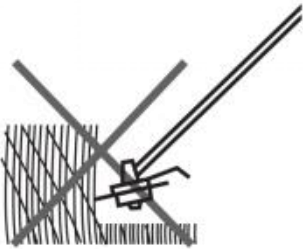

Fig. 46
7. Trim longer grass in stages; do not cut long grass in one cut (Fig. 46).